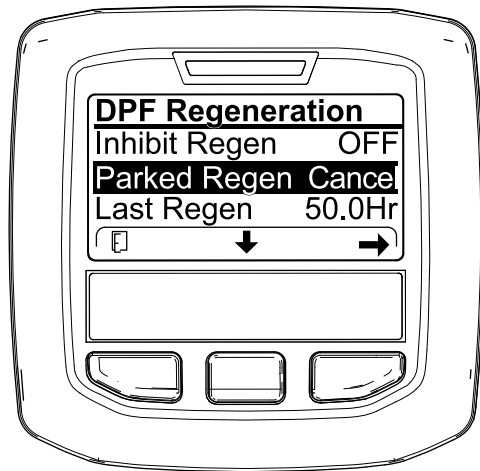
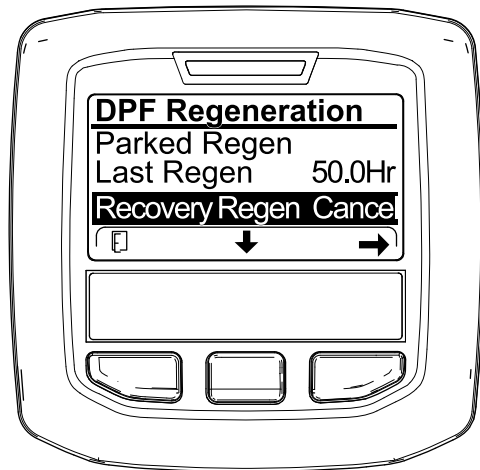

Figure 73
Figure 74
1. Access the DPF Regeneration menu (Figure 73).
2. Press the center button to scroll down to the PARKED REGEN CANCEL (Figure 73) or the RECOVERY REGEN CANCEL option (Figure 74).
3. Press the right button to select the Regen Cancel entry (Figure 73 or Figure 74).